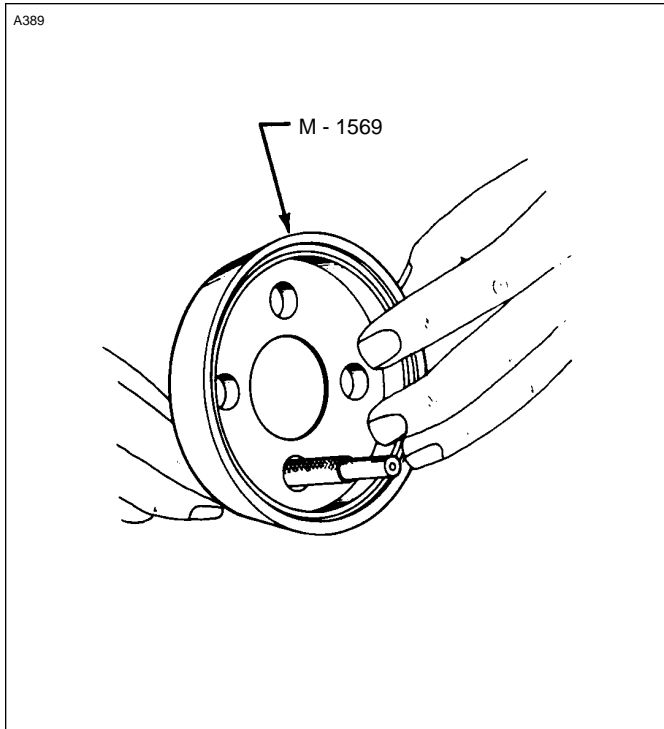

Figure 8-22 Installation in Housing
- k. For magneto end of wire, insert wire through appropriate hole in the M-1569 Plug Wire housing so the shielding is through the hole as shown in Figure 8-22.